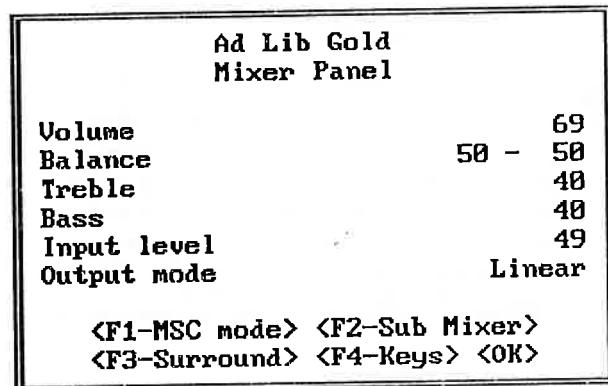

Figure 7: The main Mixer Panel window
**Alt** - **Space** - **M** are the default activation keys, but you may change this combination, as explained in the "Activation and Volume Keys" section. To activate the Mixer Panel, press all of the activation keys down at the same time and release them. Upon releasing the keys, the main Mixer Panel window will appear as shown in Figure 7.
Each window of the Mixer Panel displays the different parameters and options of the Gold card (see Figure 7). To set one of these: